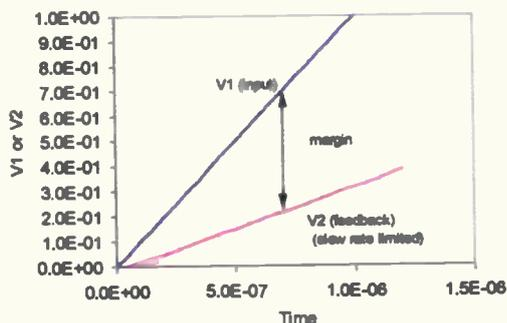

Fig. 2. Voltage margins.
where C is the Miller capacitance, G the amplifier gain (from the feedback ratio), and gm the input stage transconductance. The provisos are (1) that the input stage does not become current limited and (2) that the feedback signal is still suppressed relative to the input. Fig. 2. shows a graph where the input stage has become current limited: the initial square law response becomes linear.